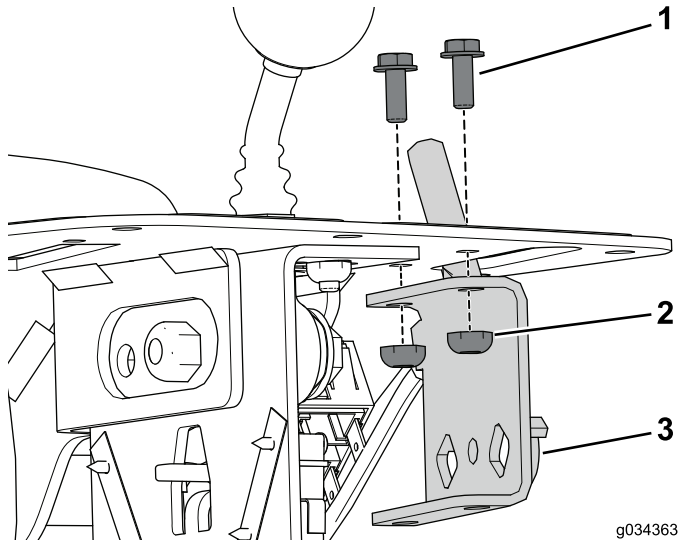

Figure 3
2. Remove and discard the 2 bolts and locknuts that secure the throttle assembly to the console assembly (Figure 3).